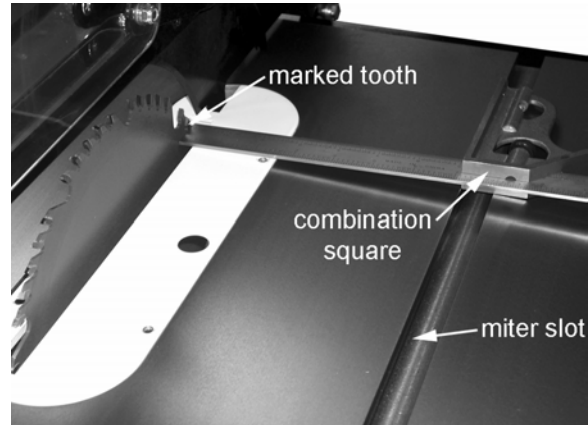

Figure 41
Blade alignment with the miter slot is adjusted at the factory. After a period of use, or after moving the saw to another location, the blade may no longer be aligned properly. To check and align the blade, see Figure 41.
4. Choose a tooth on the far side of the blade and directly over the insert. Mark the tooth with a marker. Measure the distance from the side of the blade to the right T-slot edge using a combination square. Make sure to measure between the teeth not on the tooth, see Figure 41.